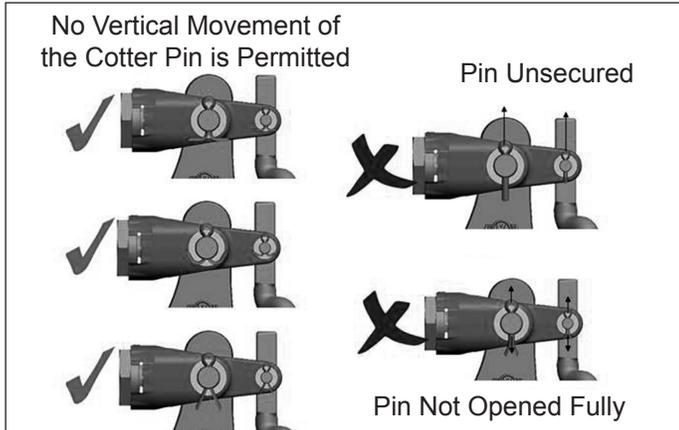

FIGURE 4 - THE COTTER PIN MUST BE OPENED, PREVENTING VERTICAL MOVEMENT
- B. If the measurement is less than the minimum shown in Figure 4, the brake actuator push rod must be shortened. If the measurement is greater than the maximum values, the brake actuator push rod may require replacement. The extended adapter – available as a separate service part (5/8"-18 pc. no. 297700 and 1/2"-20 pc. no. 297701) – may avoid the need to replace the brake actuator push rod. The extended adapter is available for the easy-on yoke assembly only. *Note: Installing any other type of push rod extender is not recommended. These devices may loosen over time and result in an improperly adjusted brake.*
Secure the cotter pins per Figure 4.